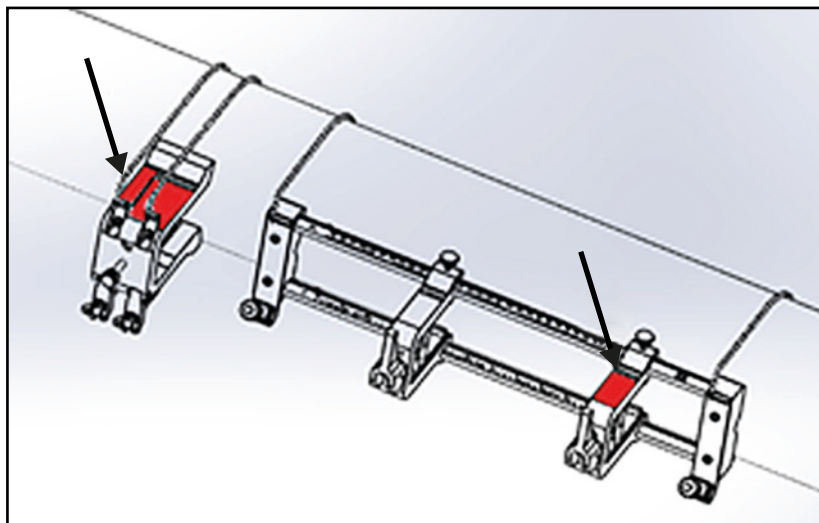

Figure 38: Yoke Rotated into Horizontal Position
4. Rotate the yoke until it is located in a horizontal position on the same side of the pipe as the previously installed clamping fixture, as shown in *Figure 38* below.
5. Ensure that the top surfaces of the yoke bracket and the fixed clamping fixture bracket lie precisely in the same horizontal plane (see *Figure 38* above).